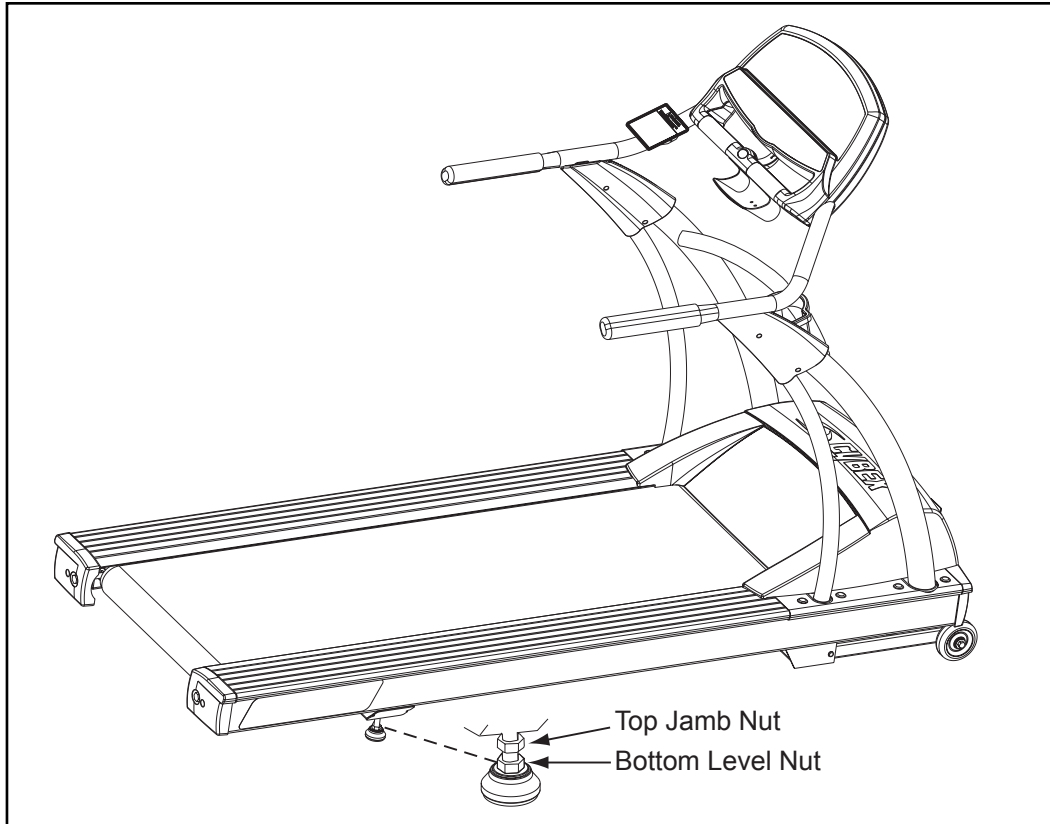

Figure 7
- B. Confirm that the emergency stop key is in place. See Figure 6. **NOTE:** *the treadmill will not run without it in place.* Your treadmill should now look like Figure 7.
- B. Loosen the (top) jam nut located on the right foot. See Figure 7.
- C. Raise or lower the (bottom) leveling nut until the treadmill is level. See Figure 7.